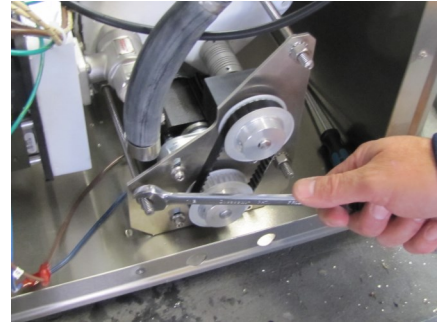

Figure 5
5. Remove the three nuts on the threaded rods that hold the agitator motor in place. See Figure 5.